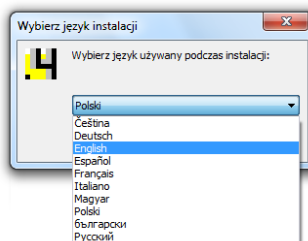

Fig. 37 – language selection
- First of all, the dot4CAD installation wizard will ask to choose the language (Fig. 37);